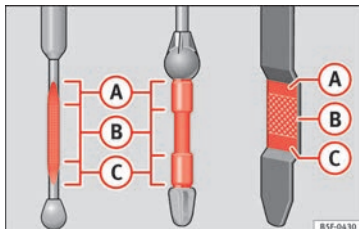

Fig. 147 Engine oil dipstick.
- Then pull it out once more and check the oil level » **Fig. 147**. Top up with engine oil if necessary.